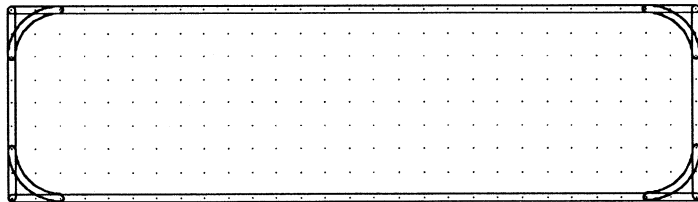

Figure 5-22. The module outline with an arc in each corner.
4. Use the same procedures to move the three remaining arcs to their respective outline corners, aligning the endpoints with the outline segments. The module looks like figure 5-22.